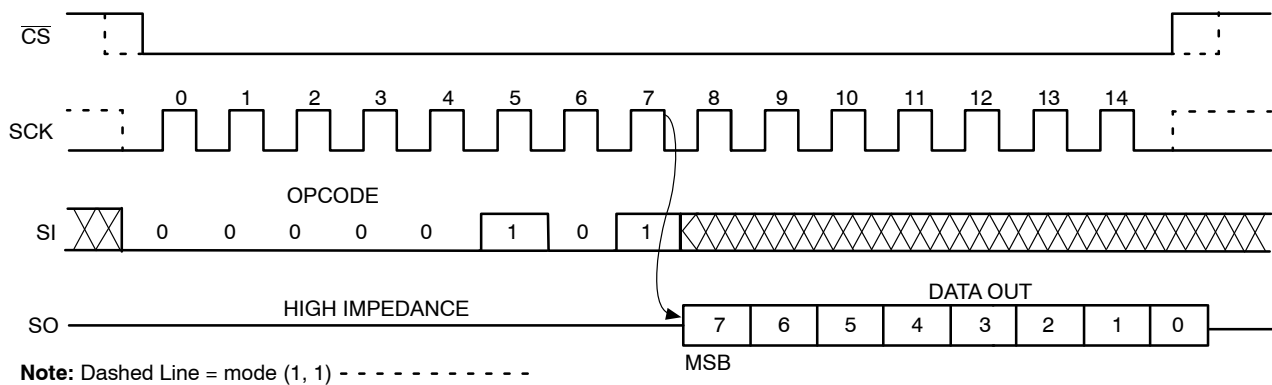

Figure 10. RDSR Timing
Reading the additional 256-byte Identification Page (IP) is achieved using the same Read command sequence as used for Read from main memory array (Figure 10). **The IPL bit from the Status Register must be set (IPL = 1) before attempting to read from the IP.** The [A7:A0] are the address significant bits that point to the data byte shifted out on the SO pin. If the $\overline{\text{CS}}$ continues to be held low, the internal address register defined by [A7:A0] bits is automatically incremented and the next data byte from the IP is shifted out. The byte address must not exceed the 256-byte page boundary.
To read the status register, the host simply sends a RDSR command. After receiving the last bit of the command, the CAT25AM02 will shift out the contents of the status register on the SO pin (Figure 10). The status register may be read at any time, including during an internal write cycle.